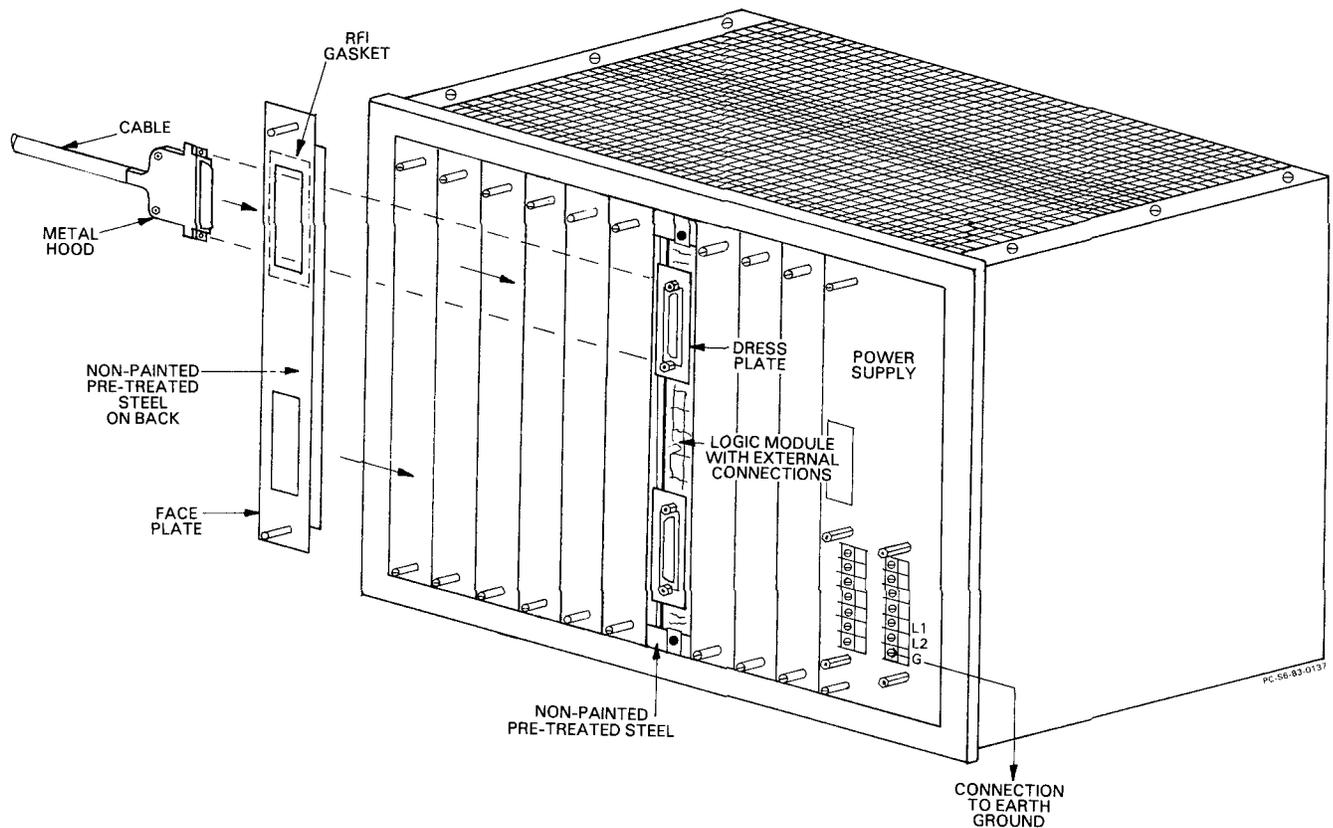

FIGURE 2. TYPICAL CABLE AND FACEPLATE CONNECTION
3. Some logic modules that plug into the racks will have mounted on them one or more "D" type connectors. Between each module and the connector is a metal dress plate (see Figure 2) painted with a black conductive paint. There are tapped